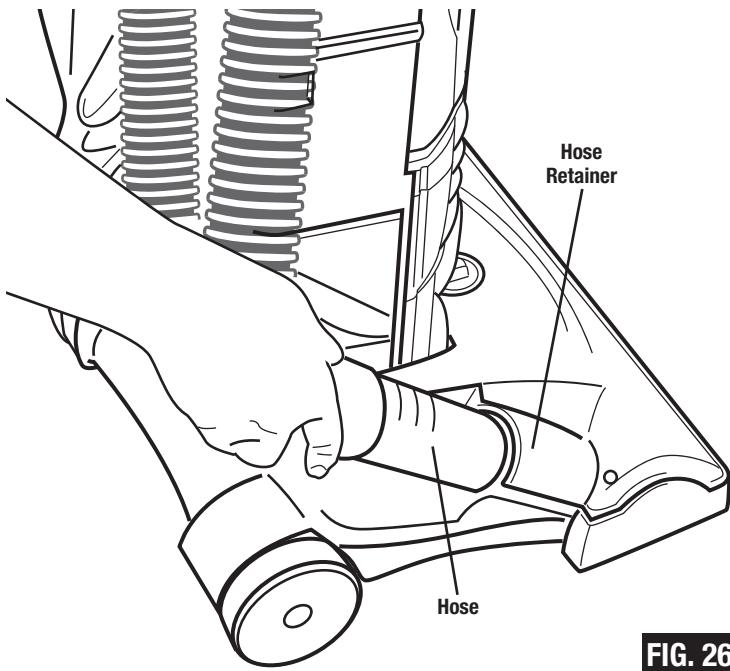

FIG. 26
- Step 1:** Firmly pull the end of the hose from the hose retainer on the hood of the vacuum (FIG. 26).